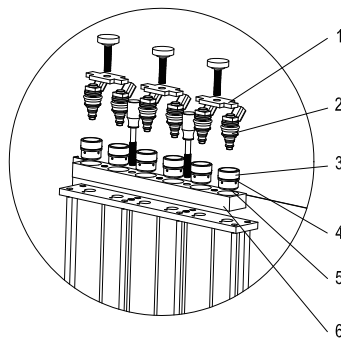

Fig. 06
- Choose proper couplers for side-supply injectors (3) and proper O-rings, and mount them together. (Remember to apply a little lubricating grease.)
- Mount the cross plate (1) and tighten it with bolts.
- Mount the fuel distributor and injectors onto the fuel distributor supporter, and tighten them with two raffle screws (black). See Fig. 06.